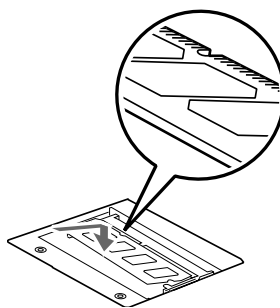

Figure 4-3. Installing a Memory Module
6. Align the memory upgrade module with the component side up. Align the connector edge of the memory upgrade module with the connector slot in the compartment. (Figure 4-3)
2. When you receive your LifeBook, there will be a protective plug inserted in the slot. Whenever you don't have a Compact Flash Card inserted, be sure to replace the plug to prevent system contamination. To remove the plug, press the Compact Flash Card eject button. (Figure 4-3)